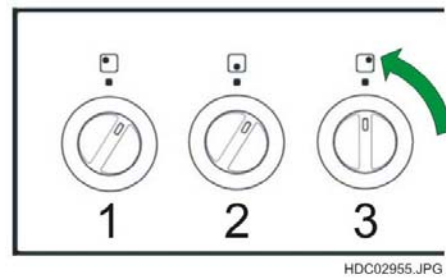

Fig. 45
2. Set knob number 3 to "0" within 4 seconds of supplying electricity to the appliance (see Fig. 45).